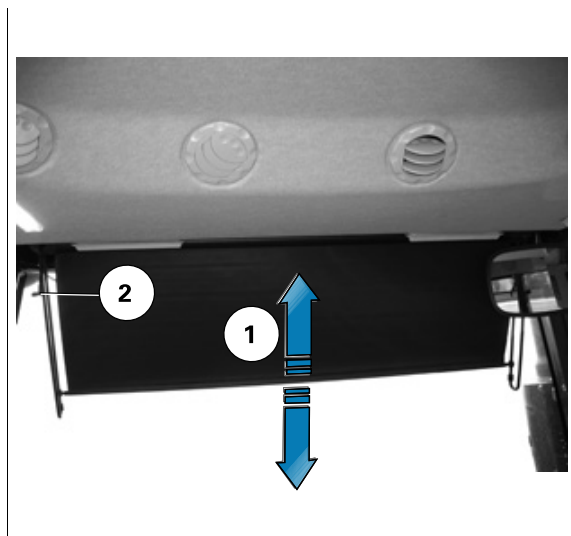

Fig. 43.
To change its position, pull the visor (1) downwards until the required position is reached fig. 43.